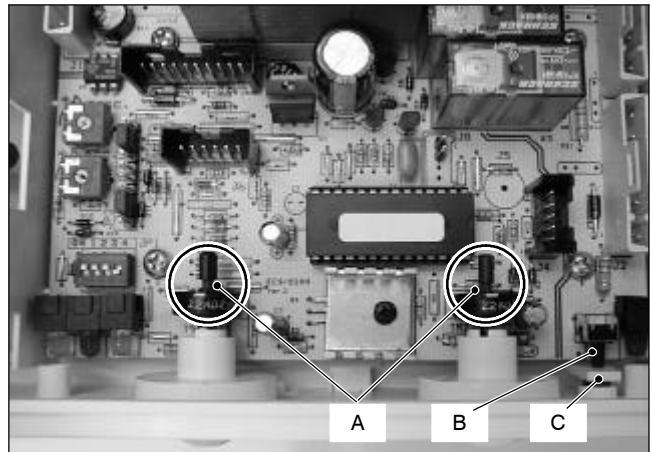

Fig. 37
- 8 Insert the spindles in the control panel knobs until the notch *A* (Fig. 37) reaches the potentiometer edge. It is not necessary to force them in the knob.
sure of the contact between the boiler reset button *B* and the tab *C* (Fig. 37).